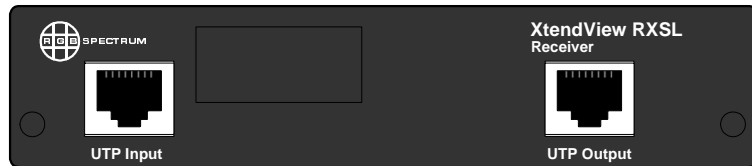

Figure 4-2. *XtendView* RXSL Front Panel Connections
1. Connect UTP cable from the *XtendView* TX UTP output to the *XtendView* RXSL receiver UTP input (Figure 4-2).